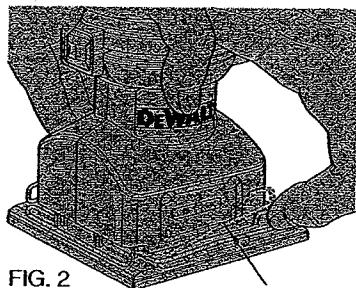

FIG. 2
- Release clamp by pulling up on clamp lever and disengaging it from the tab on the base plate. (See Fig. 2)